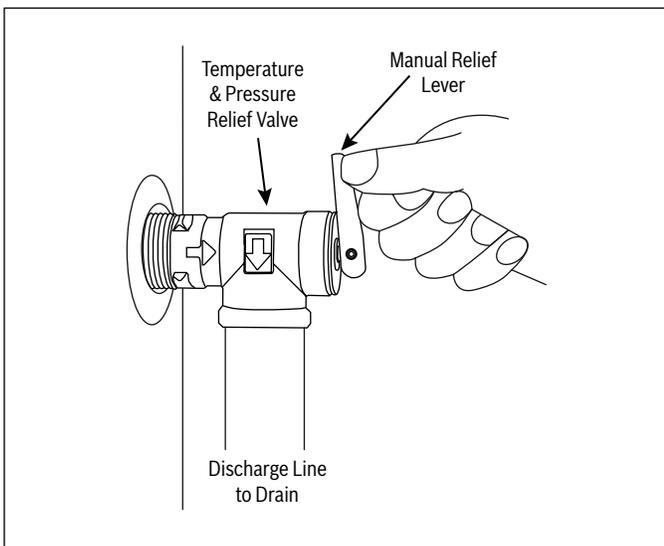

Figure 17 Testing the temperature & pressure-relief (T&P) valve
2. Lift the lever as shown in figure 17.